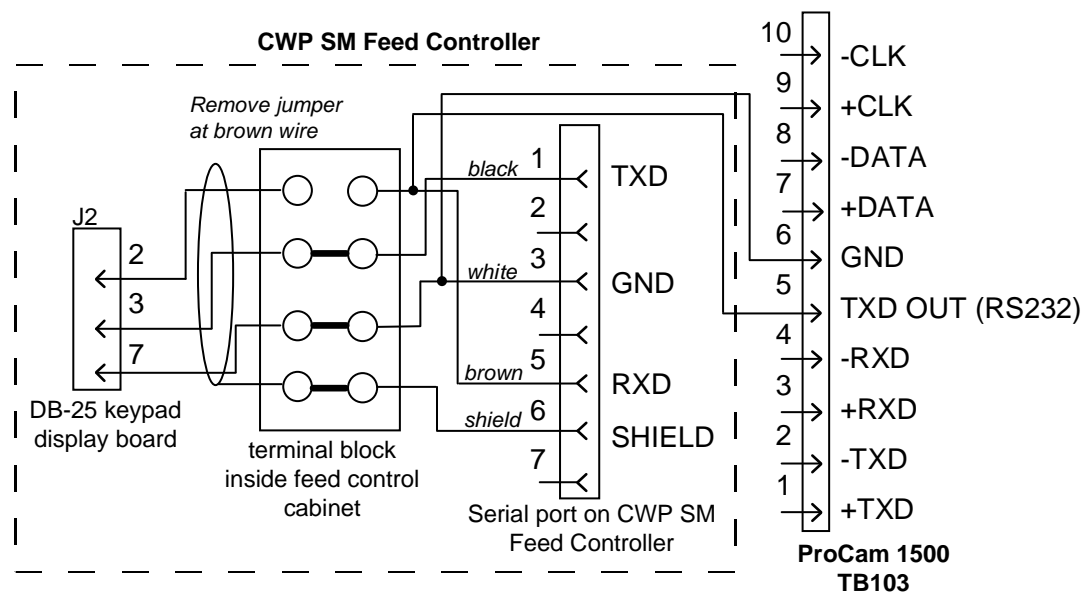

Figure 2-3. CWP SM wiring connections
1. *Verify that ProCam 1500 and your feed are still turned OFF!* You are now ready to connect ProCam 1500 to your servo feed. Find the 10-pin phoenix connector and the black round cable with a large connector (DB25 connector) on one end. The other end of the cable has three unattached wires (red, black, and shield). Check to make sure that you have the right connector for your feed—either male or female as shown in Figure 2-3, and the tables at Table 2-1.
7. You will be connecting the two wires (with shield) to the 10-pin phoenix connector which you will attach to terminal TB103 on the ProCam 1500 processor board. The wiring connection will depend upon your feed model. Refer to Figure 2-3, and the tables at Table 2-1 for your feed's RS-232 configuration.
9. Repeat step 8 when connecting the other two wires. Make sure you add the jumper between terminals 3 and 6 on ProCam 1500 TB103 as shown in Figure 2-3, and the tables at Table 2-1.